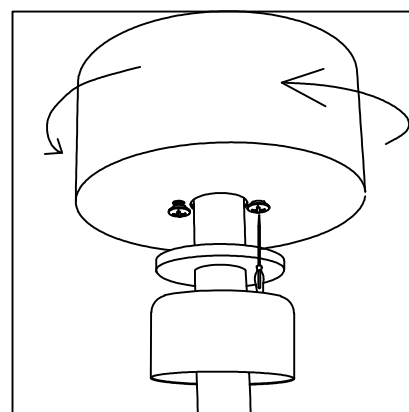

Figure 7.2
- Rotate the canopy upwards towards the screws on the hanger and tighten the screws. (Figure 7.2)